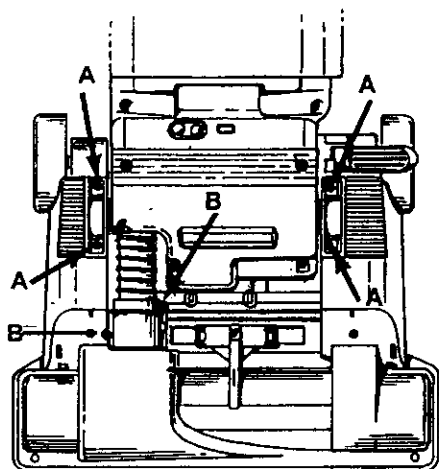

Fig. 9
1. Remove two R.H. and two L.H. trunnion screws - marked "A" (Fig. 9)
2. Remove hose clamp - two screws ("B") (Fig. 9)